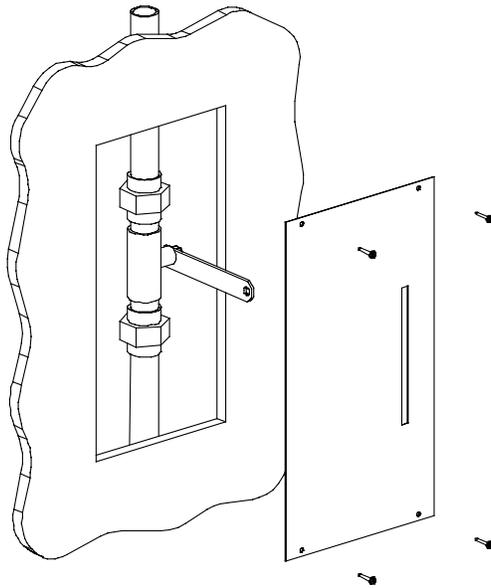

FIG 3
4. Once piping is complete, and it is oriented correctly per the rough in dimensions specified. Position the stainless steel cover panel in wall as shown in fig. 3, making sure the lever handle is in the half-open (horizontal) position. This will allow the handle to fit through the slot in the cover panel.